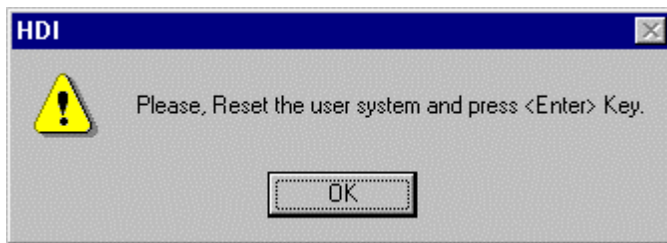

Figure 2.9 Dialog Box of the RESET Signal Input Request Message
7. The HDI window is displayed, and the dialog box is displayed as shown in figure 2.9.